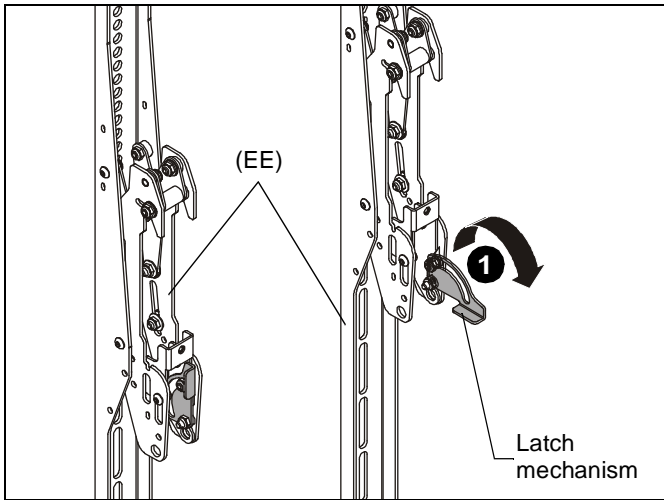

Figure 5
1. Lower the latch mechanism on all interface brackets (EE). (See Figure 5)
1. Ensure that the latch mechanisms on interface brackets (DD) are already lowered. (See Figure 5)